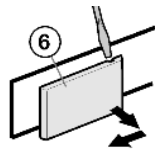

Fig. 6
- ▶ Using a screwdriver, detach the cover Fig. 6 (6) on the handle side and remove it outwards.